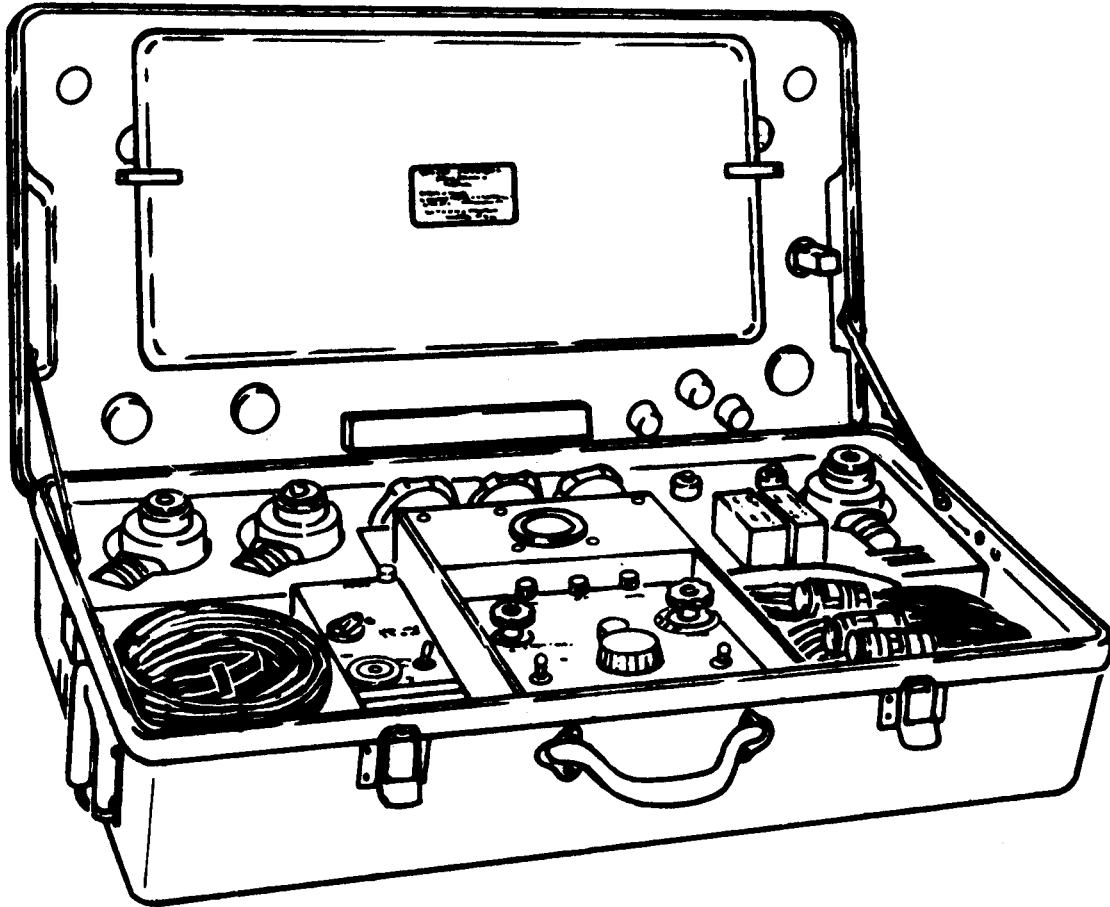

Figure 1-1. Aircraft Electronic Weighing Kit.
These instructions cover the aircraft electronic weighing kit, (fig. 1-1) part numbers C-7500 and C-46500, and provide complete information for operation, maintenance, inspection, overhaul, and testing.
b. The kit consists of a carrying case containing the indicator assembly and the power supply assembly. The cells, cables, adapters, and accessories are stored in spaces provided within the carrying case (fig. 1-1).
Figure 1-1 illustrates the nameplate located inside the case cover. Each assembly is marked with part number and data peculiar to that assembly.